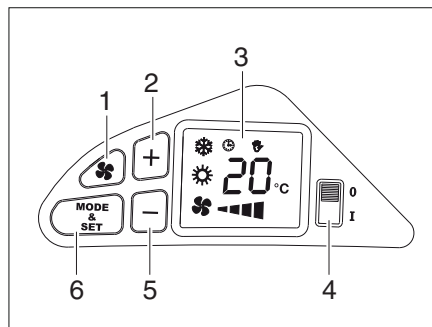

Fig. 127 Operating panel
- Switch on the air conditioning unit with the switch (Bild 127,4). When it is switched on, the system always waits 2 minutes before it switches on the compressor and changes to automatic operating mode.
- Select the desired operating mode using the button (Bild 127,6). The symbols in the display (Bild 127,3) show the selected operating mode:
- The ventilation speed is set in manual mode by simultaneously pressing the button (Bild 127,1) and one of the buttons (Bild 127,2) or (Bild 127,5).
- The temperature is set by pressing the buttons (Bild 127,2) or (Bild 127,5)
- Switch off the air conditioning unit with the switch (Bild 127,4).